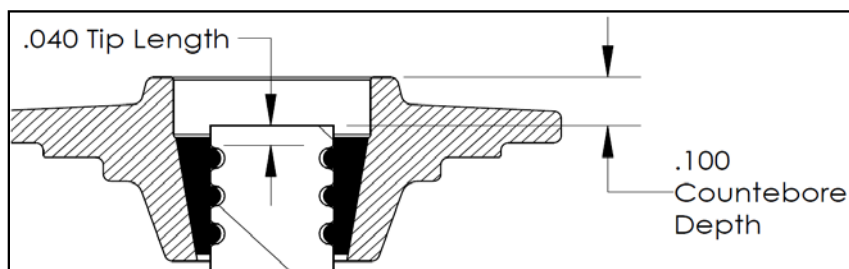

Figure 1) Installation assembly after valve tip modifications.
Note 1: MODIFICATION NECESSARY. KPMI recommends roughly 0.100" of shim counterbore depth in the retainer. This distance is measured prior to the installation of the rocker shim, from the tip of the valve to the top surface of the retainer. To achieve this measurement, **the valve is intended to be "tipped" / shortened by 0.035"** (See Figure 1, page 2) Note: removing .035" should leave roughly .040" of tip length above the last groove on an OEM style groove. KPMI doesn't recommend less than .040" of tip length.
1. Stem Protrusion is measured from the tip of the valve stem to the cylinder head. See Figure 1.
2. Outer spring installed height is measured where the outer spring contacts the Retainer and Basewasher when assembled (See Figure 1).
3. Inner spring installed height is measured where the inner spring contacts the Retainer and Basewasher when assembled (See Figure 1).
4. Retainer-to-Guide clearance is the distance between the Valve Guide (w/o the seal) and the bottom of the Retainer, with the Valve in the closed position (See Figure 1 and Notes 3 & 4).
5. Retainer-to-Seal clearance is the distance between the Valve Stem Seal and the bottom of the Retainer, with the Valve in the closed position (See Figure 1 and Notes 3 & 4).